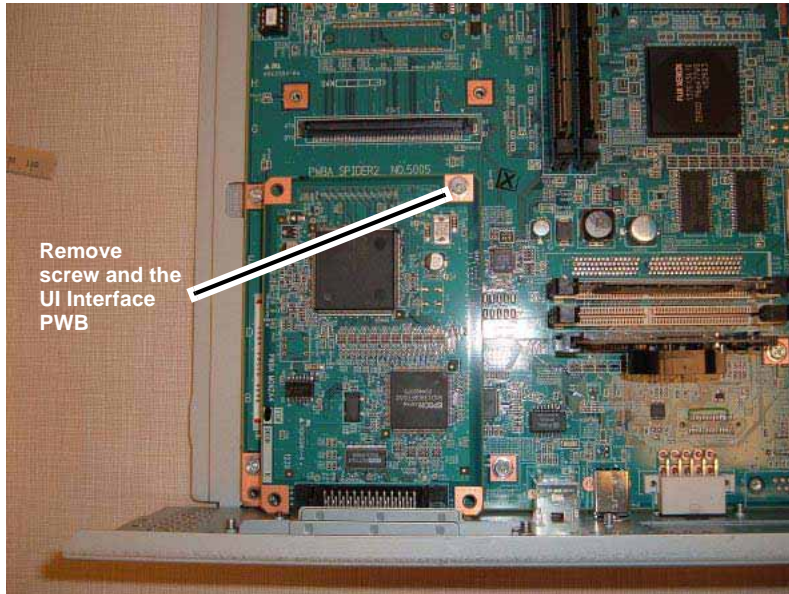

Figure 5 Removing the UI Interface PWB
6. Remove the UI Interface PWB (Figure 5).